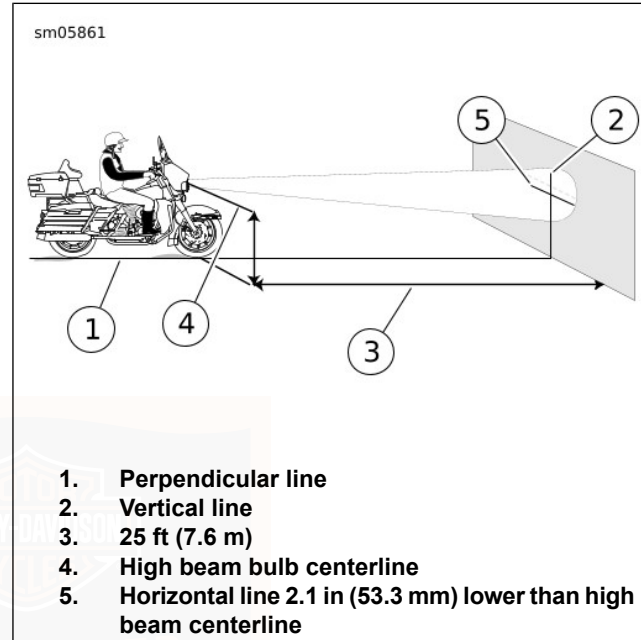

Figure 82. Headlamp Alignment: Quartz Halogen Type
4. See Figure 82. Park the motorcycle on a line (1) perpendicular to the wall.
6. Draw a vertical centerline (2) on the wall aligned with line (1).
7. With the motorcycle loaded, point the front wheel straight forward at wall. Measure the distance (4) from the floor to the bulb centerline:
8. Draw a horizontal line (5) through the vertical line:
- a. **Quartz halogen:** See Figure 82. 53.3 mm (2.1 in) lower than the measured distance.
- c. **LED, frame-mounted fairing:** See Figure 82. 53.3 mm (2.1 in) lower than the measured distance.
- a. **Quartz halogen:** See Figure 82. Hot spot centered on mark with headlamp set to **high beam**.